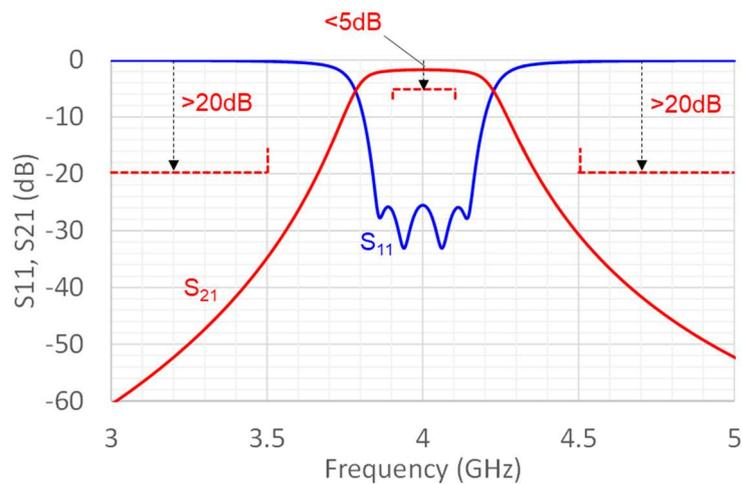

Figure 1. Target specifications of S_{21}
- (b) Insertion loss: The filter should have less than 5 dB insertion loss over the above mentioned frequency range. (Figure 1)
- (d) Rejection: The filter should satisfy rejection characteristics shown below. (Figure 1)